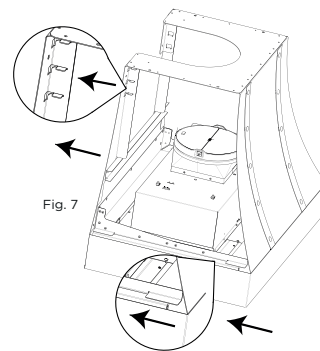

Fig. 7
14. Lift the Oristano to the height of the hood and slide it straight back towards the wall as far as it will go. (Fig. 7).
NOTE: Make sure that the flange of the Oristano enters the slot of the horizontal bracket, and push it all the way in to assemble the flanges of the Oristano to the wall. (Fig. 7).